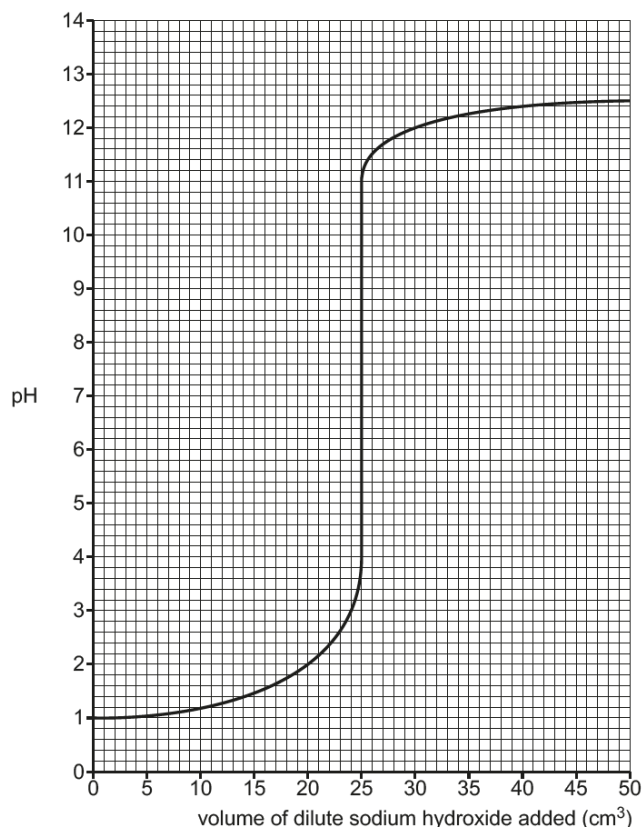

Fig. 1.2
Ali plots a graph of his results, as shown in **Fig. 1.2**.
- (a) (i) Use values from the graph in **Fig. 1.2** to describe how the pH changes when dilute sodium hydroxide is added to the acid.